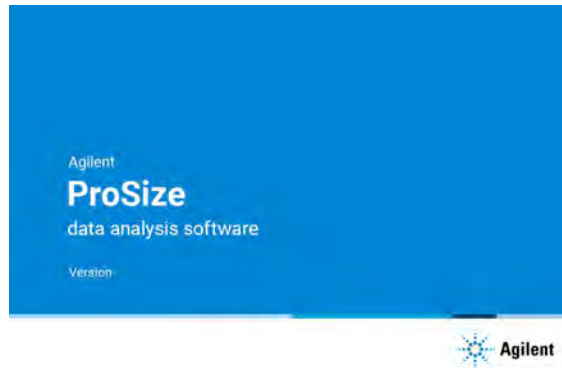

Figure 3 Splash screen displaying version information upon starting the ProSize software (Note: This manual refers to version 1.0, and higher)
- 1 In the Windows Start menu, navigate to **ProSize data analysis software**. Alternatively, create a shortcut from your desktop to launch the program. A splash screen appears showing the software version (**Figure 3**).